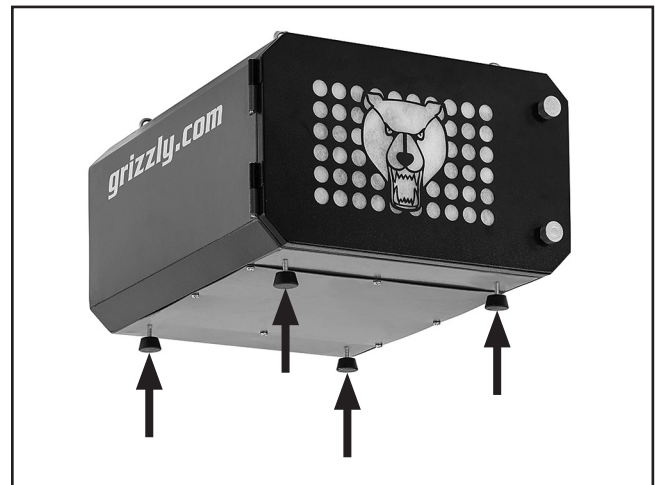

Figure 13. Rubber feet installed.
2. Thread (4) rubber feet into holes on bottom of machine (see **Figure 13**).